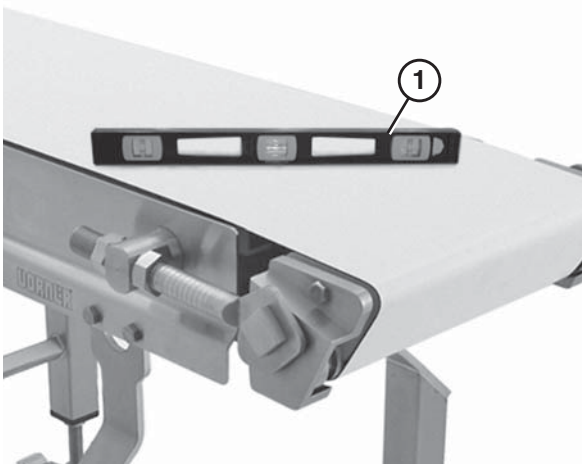

Figure 3
Conveyor **MUST** be mounted straight, flat and level within confines of conveyor. Use a level (Figure 3, item 1), during setup.